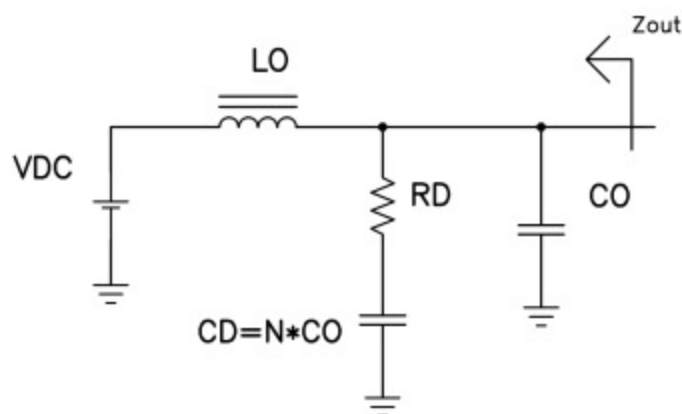

Figure 1: CD and RD damp the output filter source impedance.
The design of an input filter usually begins with selection of an input capacitor (CO of Figure 1) based on ripple current rating or hold-up requirements. The next step usually involves selecting an inductor (LO) based on the system's EMI requirements. As we saw last month, near resonance the source impedance of these two elements can be quite high, leading to an unstable system. Figure 1 presents a method to control this impedance by placing a series resistor (RD) and capacitor (CD) in parallel with the input filter. The filter could be damped with just a resistor across CO. However, in most cases the power loss would be unacceptable. An alternative method is to add a series connection of an inductor and resistor across the filter inductor.